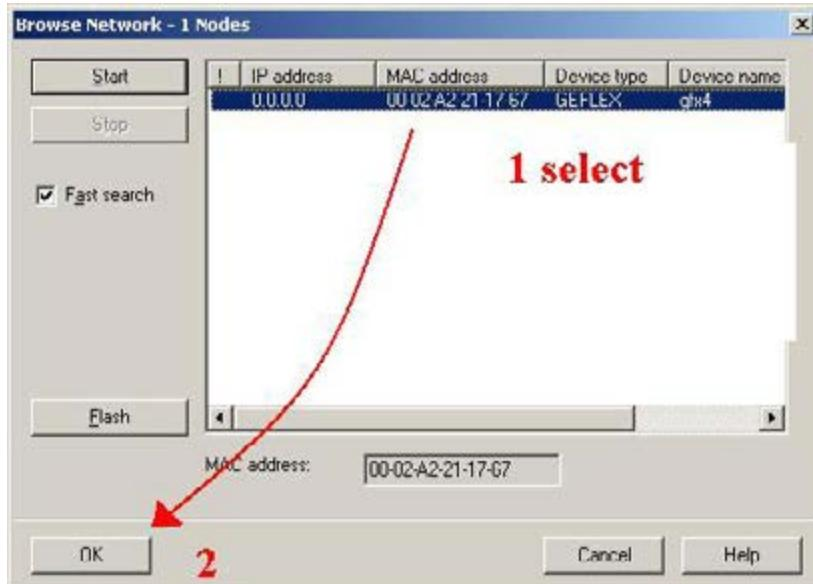

Figure 5
To change the settings (Fig. 5) of the GFX4 or GFXtermo4, select the line with Device type = GEFLEX (1) and confirm with OK (2)